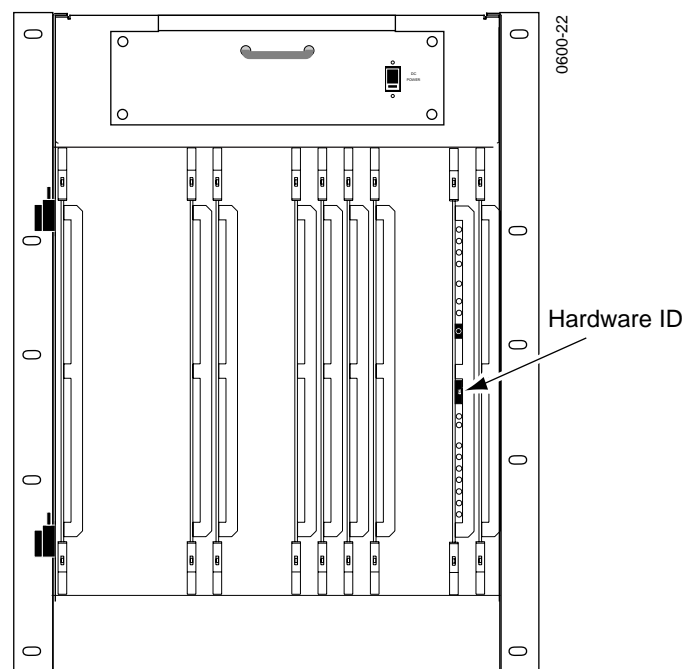

Figure 2-3. Video Processor CPU Hardware ID
The Video Processor hardware ID is set using the dial switch (S1) located on each Video Processor CPU module (Figure 2-3).
1. The hardware ID is set using a screwdriver dial adjustment located on the right side of the switch (Figure 2-3). You may need to remove a module from the frame to reach this switch.